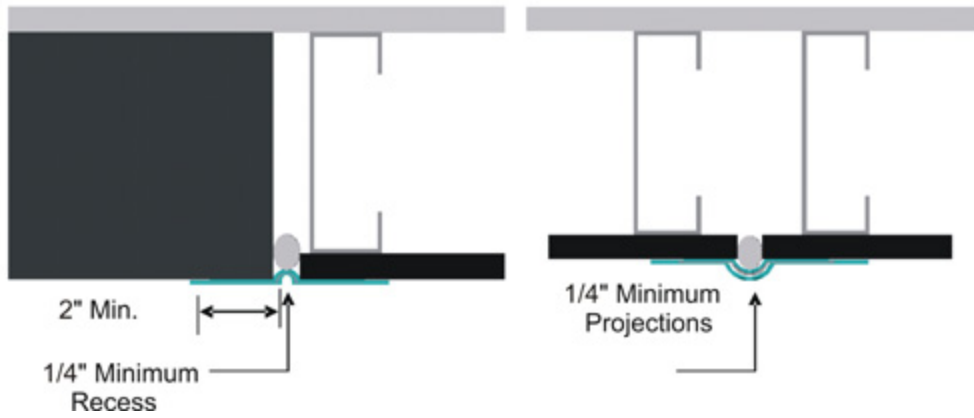

Figure 4
- .1 The width of the AquaFlash Mesh must overlap each side of the joint a minimum of 51 mm (2 in) – Figure 4.